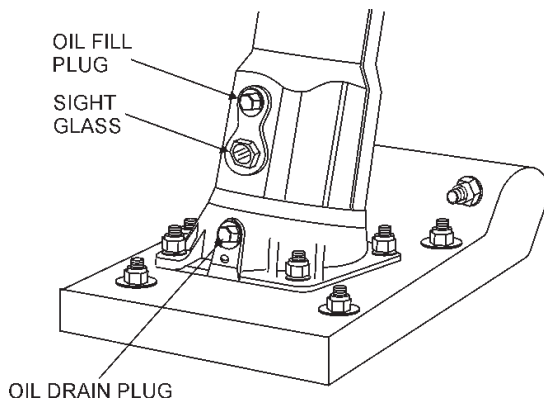

Figure 2. Foot Housing Sight Glass
1. Check the oil level through the oil level sight glass (Figure 2) at the rear of the tamper foot.
2. If oil is not visible, add 10W-30 motor oil into the oil fill plug opening (Figure 2). The bath contains approximately 1.7 pints (800 cc.)